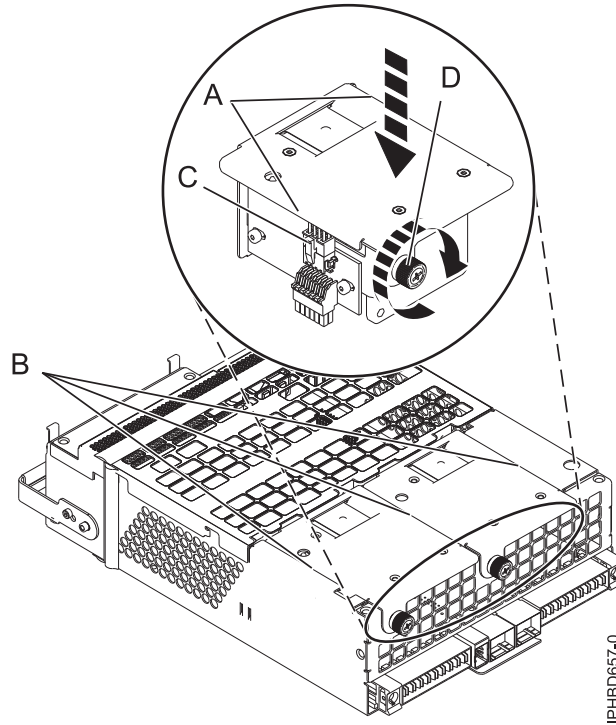

Figure 17. Replacing a fan
- b. Press the fan (**A**) into its connector in the assembly as shown in Figure 17 on page 18.
- c. Tighten the thumbscrew (**D**) as shown in Figure 17 on page 18.